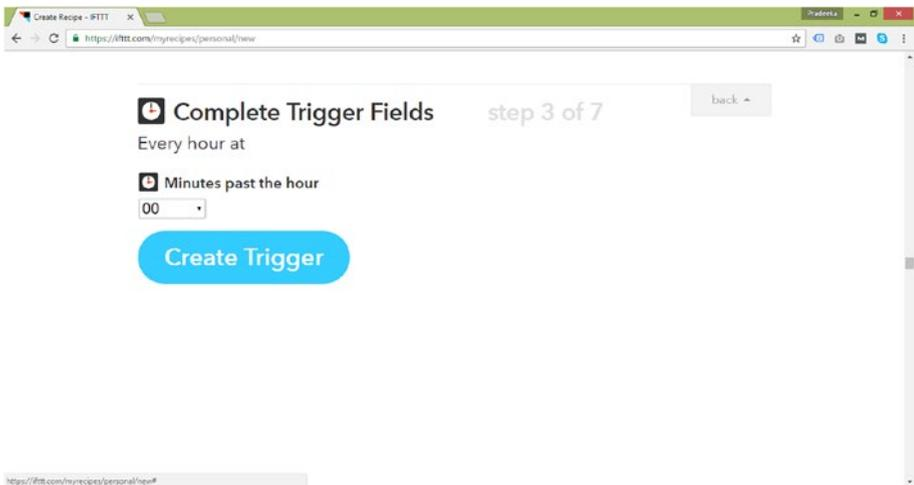

Figure 8-14. The Create Trigger button
- From the **Minutes Past the hour** drop-down list, select the number of minutes past the hour to trigger a **Twitter message** (a **Tweet**). Select **00 minutes** from the drop-down list to fire *once an hour at 00 minutes past the hour*. Then click the **Create Trigger** button, as shown in Figure 8-14.